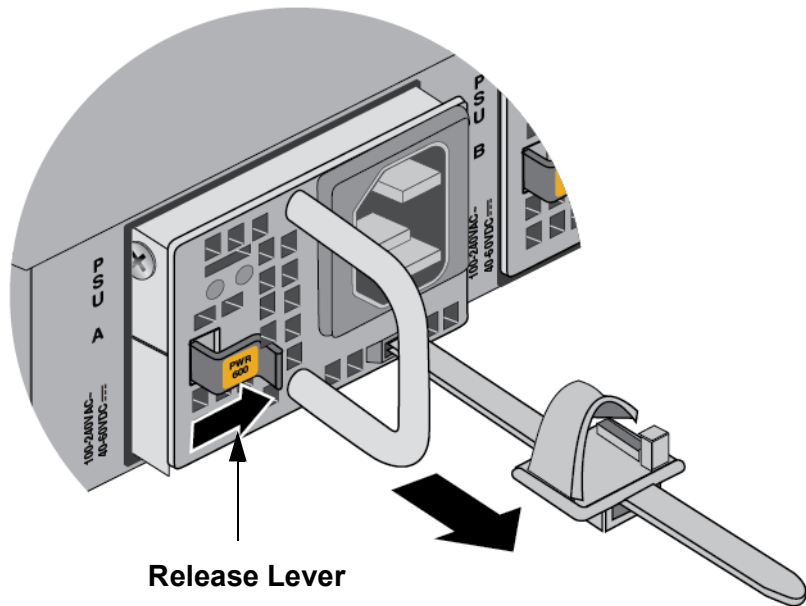

Figure 144. Removing the Power Supply
4. Press the release lever to the right and pull on the handle to release the power supply from the internal connector in the switch. Refer to Figure 144.